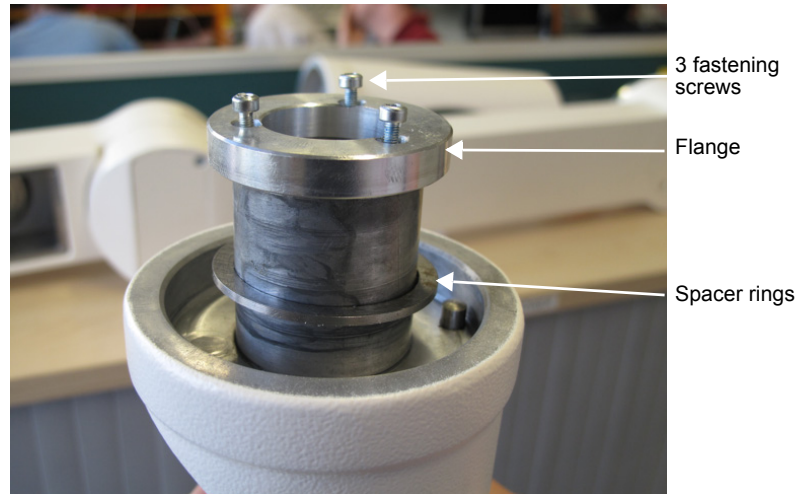

Fig. 4-6 Items for attachment of the Solo Center
- Loosen the three screws on the Solo Center, remove the screws, the flange and the spacer rings (→ Fig. 4-6).